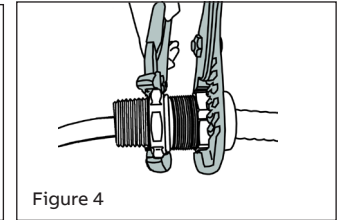
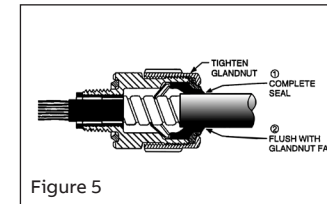

Figure 4
Figure 5
- Tighten the gland nut until you obtain an appropriate seal or to the maximum torque (see table) (Figure 4). The bushing and collar ring should seal evenly around the cable's outer jacket and flush with glandnut face (Figure 5). Ensure the cable remains centered to obtain an optimal seal.